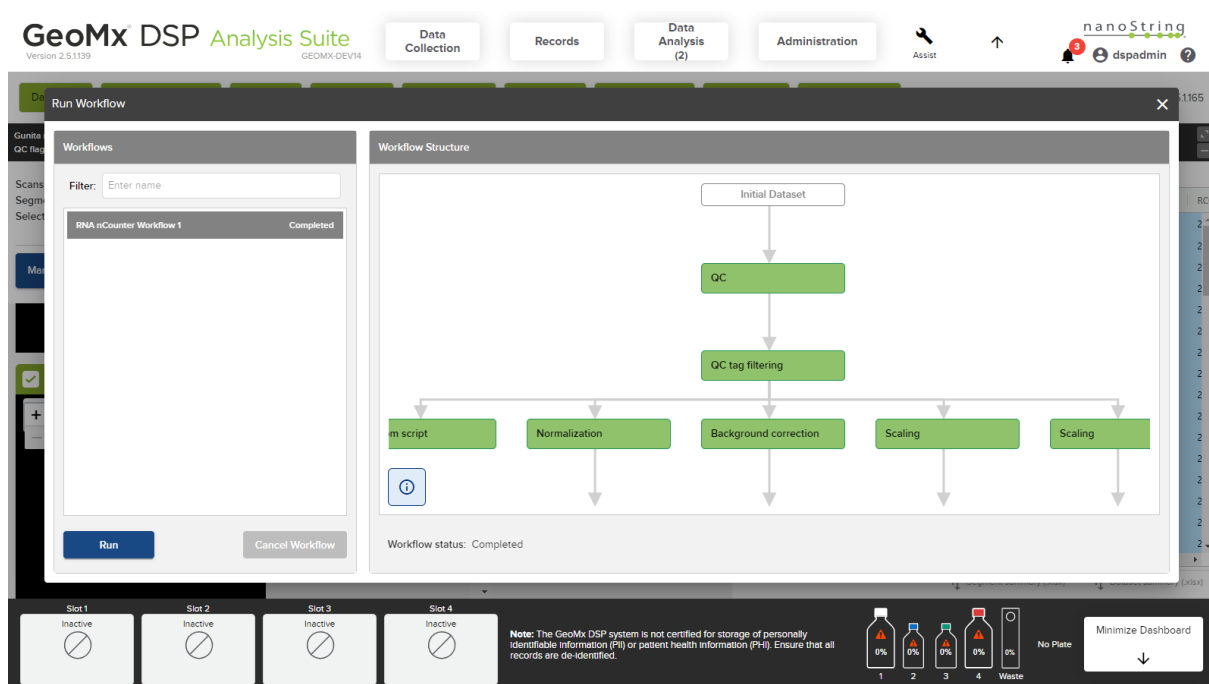

Figure 49: Run Workflow window
2. See the compatible workflows for this dataset in the left **Workflows** pane. Hovering on the workflow name brings up a tooltip with the workflow description. Clicking on the workflow name brings up a schematic of the workflow steps in the **Workflow Structure** pane (see Figure 49). Use the **Filter** field to locate a particular workflow.